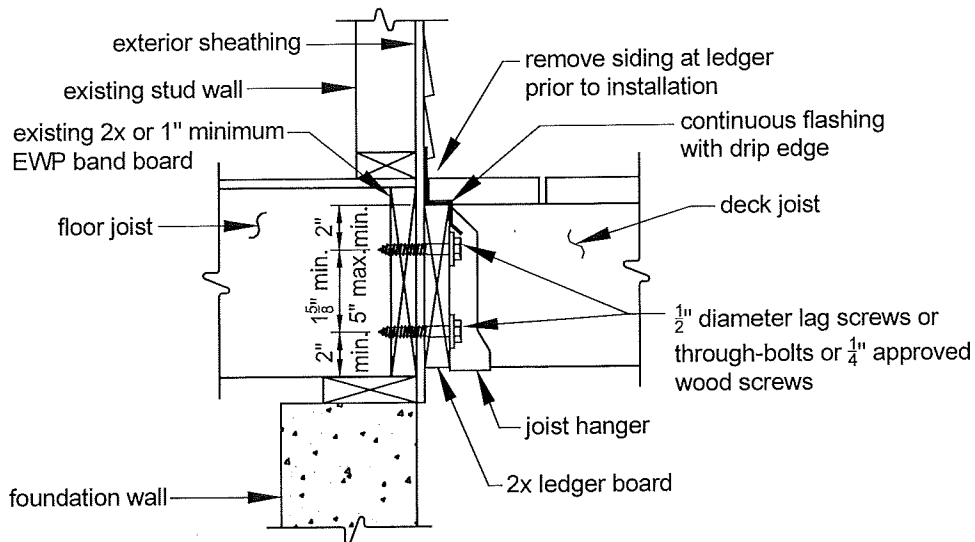

FIGURE 12: LEDGER BOARD-TO-BAND BOARD ATTACHMENT
- The ledger board shall be attached in accordance with one of the conditions shown in FIGURES 12 through 14.
- Continuous flashing with a drip edge, as shown in FIGURE 12, is required at the ledger board when attached to wood-framed construction.